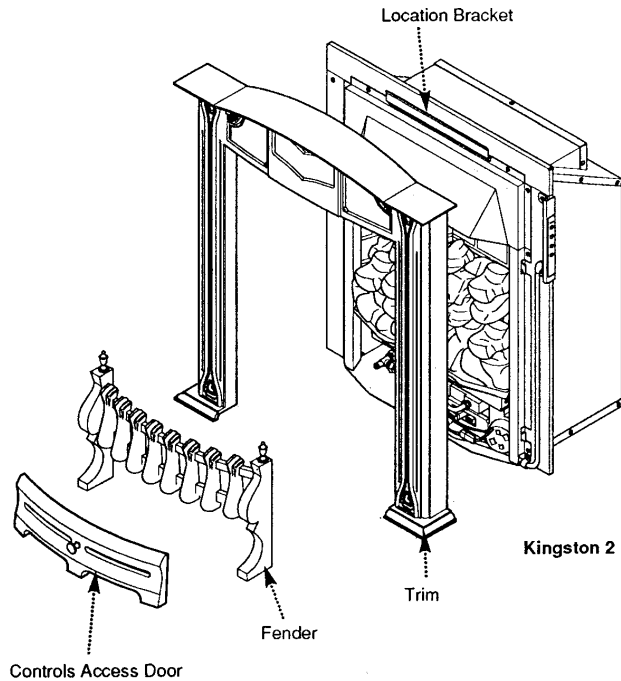

Fig. 32
9.3 Kingston 2 Models (Fig. 32)
1. Take the outercase location bracket from the kit and fasten it using the existing 2 screws to the canopy (Fig. 32). This will now mate with the bracket on the back of the trim.